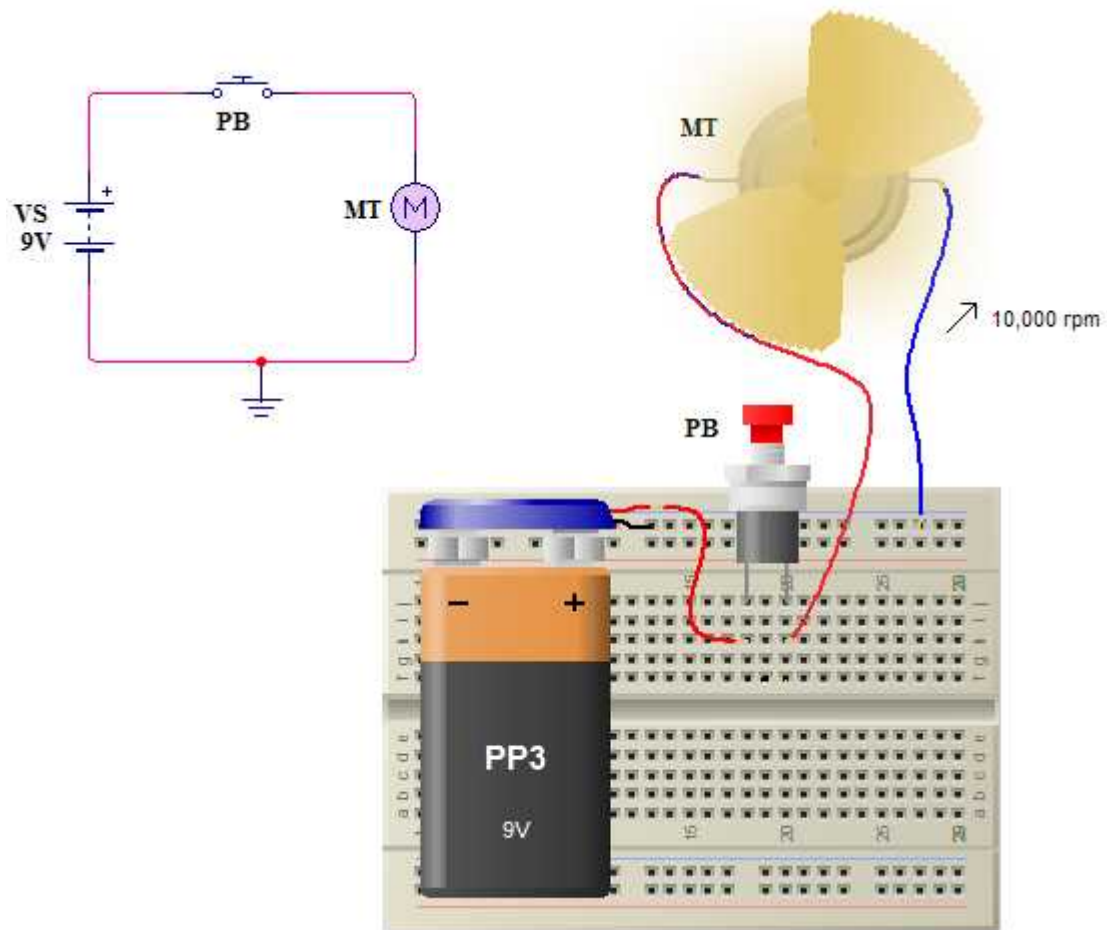

Figure 4-49: DC motor supplied with dc voltage equivalent to its specification rotate at its nominal revolution per minute (rpm)
1. Connect the DC motor as illustrated in figure 4-48 and figure 4-49.
6. As indicated in figure 4-49, a 9V dc motor is supplied with its nominal voltage thus, the motor rotates at its maximum rpm, i.e. 10,000 rpm.